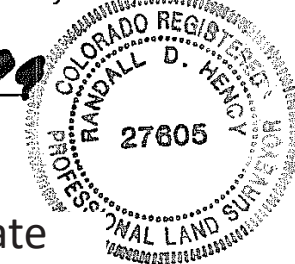

Figure 3. Coonskin View Plane Certificate
The Coonskin View Plane includes the surveyor certificate shown in Figure 3. The surveyor clearly acknowledges in this certificate that the view plane height limits are approximate. In addition, the applicant for The Ridge Unit 12 variance, John Horn, reached out to the surveying firm that created the Coonskin View Plane and states in the narrative:
- 2.5.4 Because Mr. Hency recognized that the techniques and resources used to produce the Jacobsen View Plane Survey would not produce completely accurate results, he included the following qualification on page 1 of the Jacobsen View Plane Survey” as shown in Figure 3.